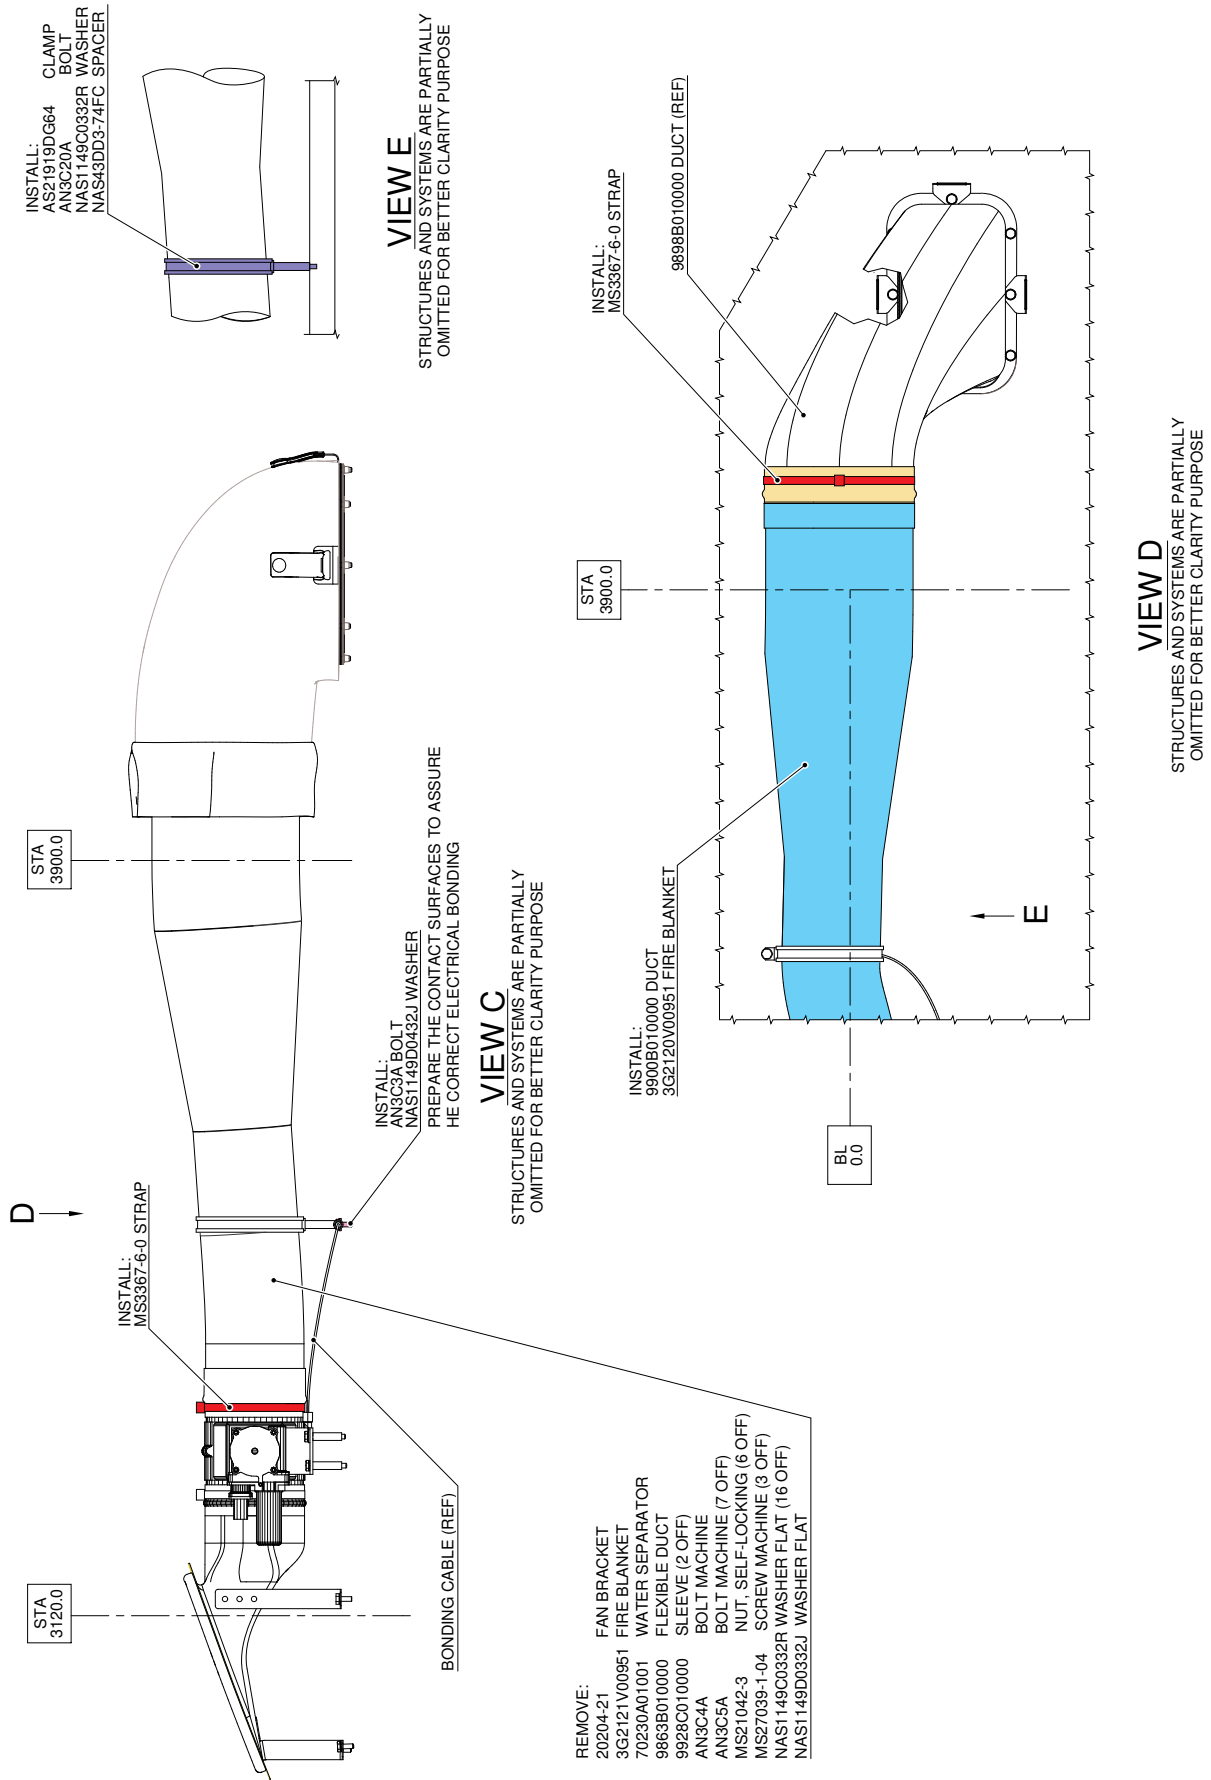

Figure 3
- 3.3 With reference to Figure 3 View C, remove the following components from the helicopter:
- 3.4 With reference to Figure 3 View C and View D, install duct P/N 9900B010000 by means of n°2 straps P/N AW001CK06HS.
- 3.5 With reference to Figure 3 View D, install fire blanket P/N 3G2120V00951 on the duct P/N 9900B010000 previously installed.
- 3.6 With reference to Figure 3 View E, install clamp P/N AS21919DG64, bolt P/N AN3C20A, washer P/N NAS1149C0332R and spacer P/N NAS43DD3-74FC.
- 3.7 In accordance with AMP DM 39-A-20-10-01-00A-259A-A and with reference to Figure 3 View C, prepare the contact surfaces to assure the correct electrical bonding.
- 3.8 With reference to Figure 3 View C, fix bonding cable by means of bolt P/N AN3C3A and washer P/N NAS1149D0432J.